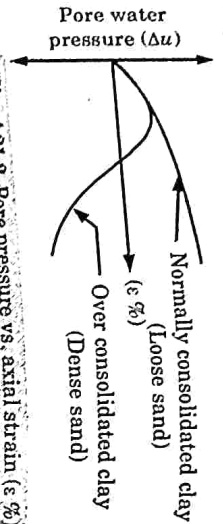

Fig. 4.21.2. Pore pressure vs. axial strain (ε %).
1. In a consolidated undrained test, there is an increase in the pore water pressure throughout for loose sand (and normally consolidated clay), as shown in Fig. 4.21.2.